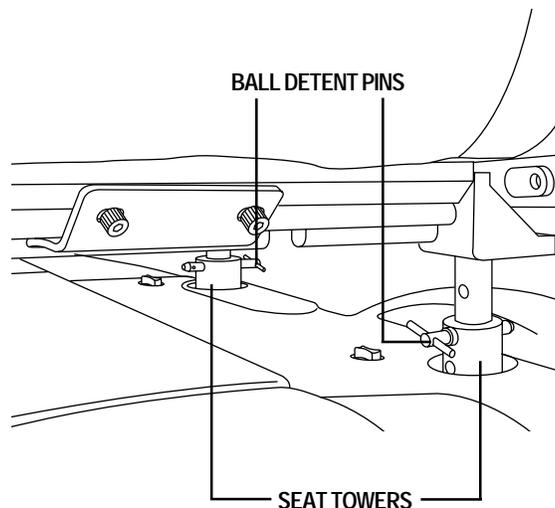

Figure 8. Seat Height Adjustment
4. Turn the adjusting screw clockwise to raise the front of the armrest, or turn the adjusting screw anticlockwise to lower the front of the armrest. See figure 8.